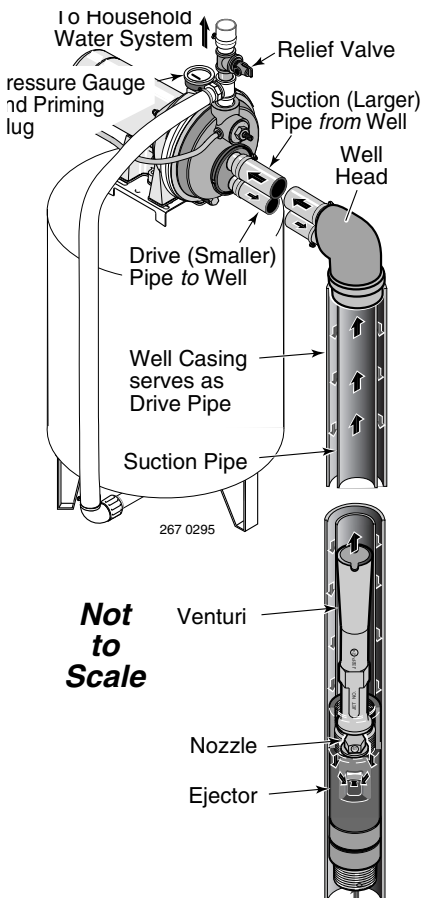

Figure 11: 2" (Single Pipe) Deep Well
2" WELL (Figure 11)
- Step 3. Assemble ejector kit FP4840 (sold separately), well piping, and well head adapter according to the instructions provided with the ejector package. See Figure 11. Use galvanized drop pipe with turned couplings to allow proper flow. Follow the instructions included with the kit in order to match the nozzle and venturi to your well conditions.